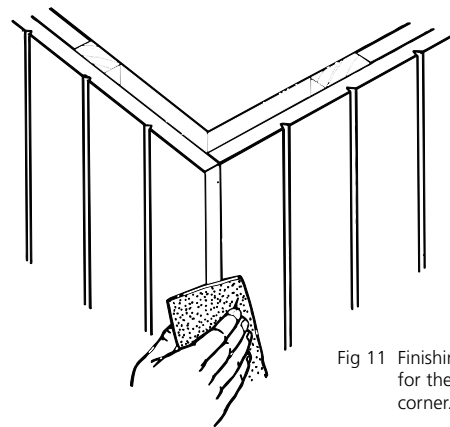

Fig 11 Finishing panels for the external corner.
- For an external corner, overlap the end of one sheet with the next (see Fig 11) leaving the overlap slightly proud of the first sheet so that it may be sanded flush with a fine grit sandpaper later.